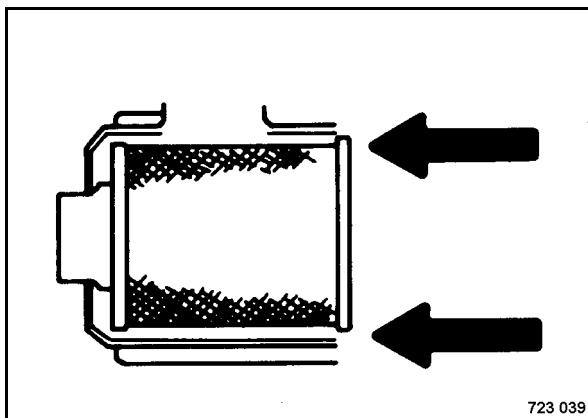

Fig. 138
- Insert the filter element (Fig. 138).